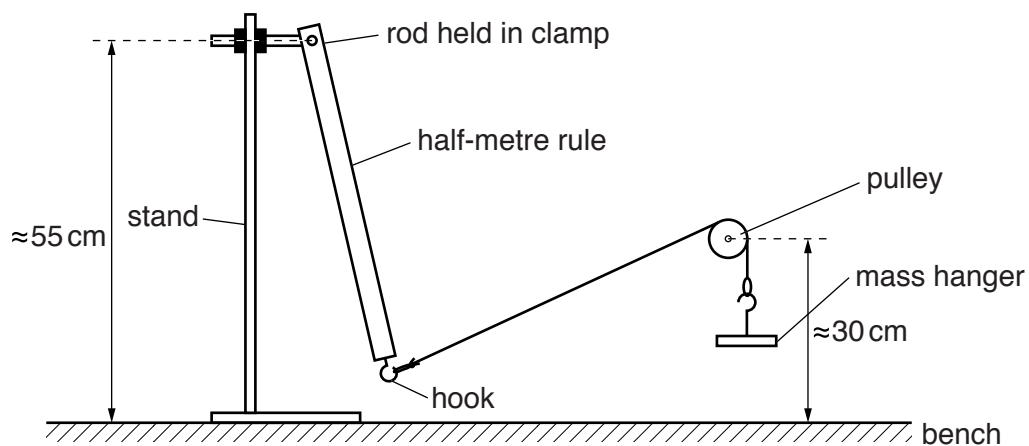

Fig. 3.1
5. The Supervisor should tie a small fixed loop at each end of the string. The Supervisor should set up the apparatus as shown in Fig. 3.1, with only the 10 g mass hanger on the second loop.
- ensure that the heights of the rod and pulley are as shown in Fig. 3.1,
- return the apparatus to the state shown in Fig. 3.1.